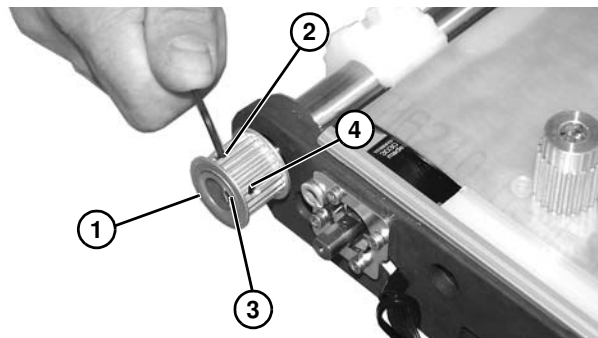

Figure 75
2. Install driven pulley (**Figure 75, item 1**) onto conveyor shaft until flush with spindle end. Line up longer set screw (**Figure 75, item 2**) on pulley over keyway (**Figure 75, item 3**) of shaft. Tighten set screw (**Figure 75, item 2**) and set screw (**Figure 75, item 4**) to 18 in-lb (2 Nm).